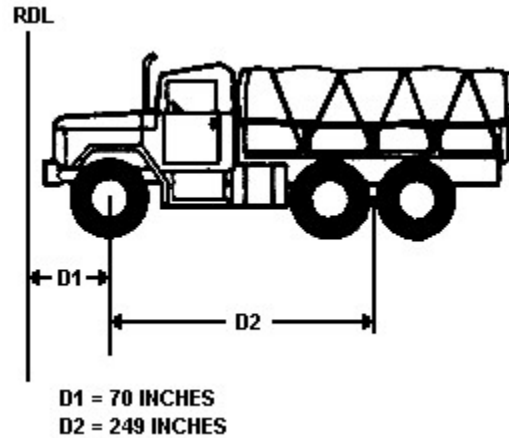

Figure 3-18
4. Determine axle distance for tandem axle vehicles (see Figure 3-18).